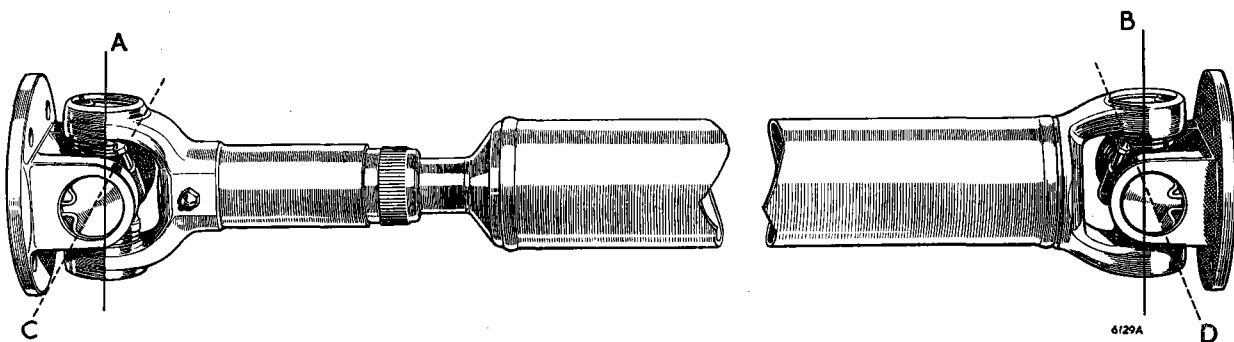

Fig. G.6
in the yoke trunnions. Repeat this operation for the other three bearings. Replace the circlips and be sure that these are firmly located in their grooves. If the joint appears to bind tap lightly with a wooden mallet; this will relieve any pressure of the bearings on the end of the journals. Before replacing the sliding joint on the shaft thread onto the splined shaft the dust cover, the steel washer, and the felt washer. When assembling the sliding joint be sure that the trunnions in the sliding and fixed joints are in line. That is to say, the axis of forked yoke (A) must be parallel to that of forked yoke (B) and the axis of forked yoke (C) must be parallel to the axis of forked yoke (D) as shown in Fig. G.6. This can be checked by observing that the arrows marked on the splined sleeve yoke and the splined shaft are in line.